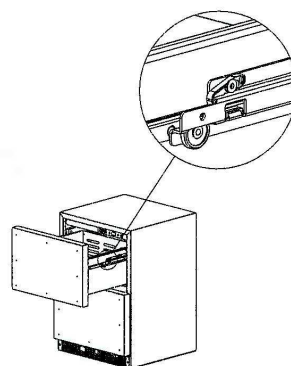
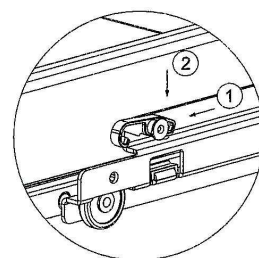

Figure 8
Figure 9
1. Remove drawer from the unit. Begin by pulling out the drawer. Locate the drawer lock which can be found on the outside of the cabinet slide (see Figure 7). Push the back of the drawer lock forward and then down, releasing the drawer from the cabinet slide (see Figure 8). Repeat this on the opposite side of the drawer. Lift the drawer up from the slides at a 90 degree angle to fully extricate the drawer from the cabinet (See Figure 9).